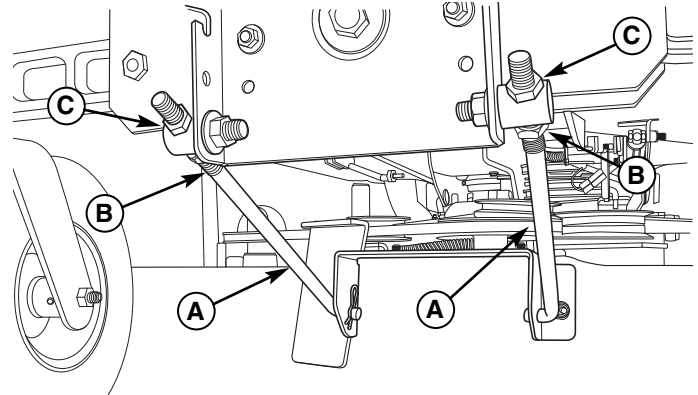

Figure 39. Front-to-Back Leveling
2. The front hitch rod (A, Figure 39) is used to adjust front-to-back leveling. To raise or lower the front of the mower deck, loosen the two rear jam nuts (B) on both sides of the front hitch rod (A). Adjust the front jam nuts (C) on both sides of the front hitch rod (A) to adjust the mower deck level. When adjusted correctly, tighten the rear jam nuts (B) to lock the front hitch rod in place.